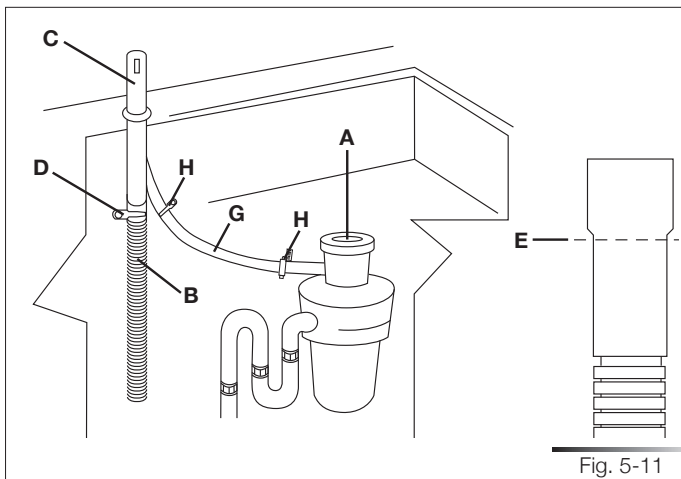
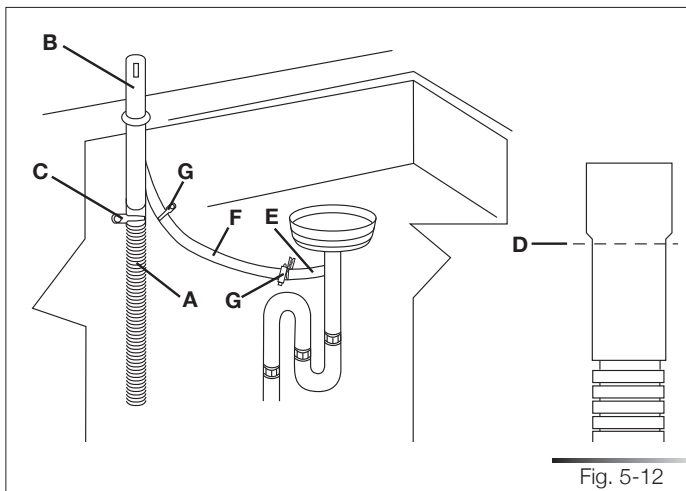

Fig. 5-11
Fig. 5-12
- 1.** Remove the cover of the waste disposal unit (ref. A fig. 5-11).
- 2.** Connect the dishwasher drain hose (ref. B fig. 5-11) to the air gap (ref. C fig. 5-11) using the wide spring clamp (ref. D fig. 5-11); if necessary, cut the end of the dishwasher drain hose (ref. E fig. 5-12) (do not cut the corrugated section). If the drain hose has been cut, use a 38 to 50 mm (1-1/2 to 2") screw clamp\*.
- 3.** To connect the air gap (ref. C fig. 5-11) to the waste disposal unit inlet (ref. F fig. 5-11), use a rubber union\* (ref. G fig. 5-11) with spring or screw clamps\* (ref. H fig. 5-11).
1. Connect the dishwasher drain hose (ref. A fig. 5-12) to the air gap (ref. B fig. 5-12) using the wide spring clamp (ref. C fig. 5-12); if necessary, cut the end of the dishwasher drain hose (ref. D fig. 5-12) (do not cut the corrugated section). If the drain hose has been cut, use a 38 to 50 mm (1-1/2 to 2") screw clamp\*.
2. To connect the air gap (ref. B fig. 5-12) to the "T" union (ref. E fig. 5-12) of the drain line, use a rubber union\* (ref. F fig. 5-12) with spring or screw clamps\* (ref. G fig. 5-12).